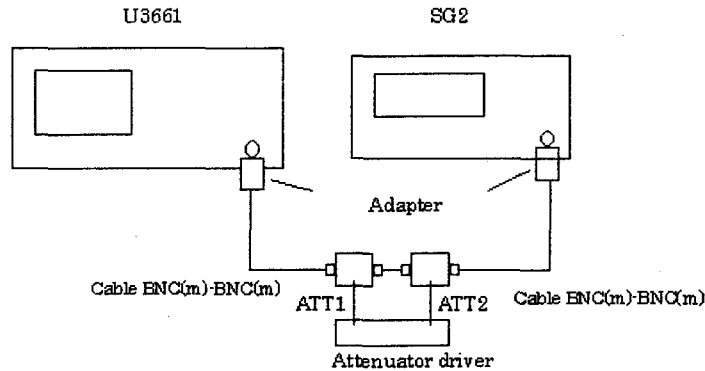

Figure 3-9 Setup for Scale Fidelity Test
1. Connect equipment as shown Figure 3-9.